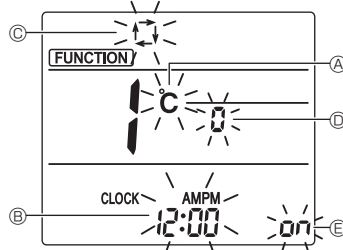

Fig. 4-11
3. Check that function No. "1" is displayed, and then press the **SET** button ③.
- The Screen display setting screen will be displayed. (Fig. 4-11)
- Press the **UP** button ④ to change the function No.
4.12.2. Changing the temperature unit (Fig. 4-11 Ⓐ)
- Press the **TEMP** button ⑤.
- Each time the **TEMP** button ⑤ is pressed, the setting switches between **°C** and **°F**.
4.12.3. Changing the time display (Fig. 4-11 Ⓑ)
- Press the **TIME** button ⑥.
- Each time the **TIME** button ⑥ is pressed, the setting switches between **12:00** and **24:00**.
4.12.4. Changing the AUTO mode (Fig. 4-11 Ⓒ)
- Press the **MODE** button ⑦.
- Each time the **MODE** button ⑦ is pressed, the setting switches between **1** and **2**.
4.12.5. Changing the pair No. (Fig. 4-11 Ⓓ)
- Press the **UP** button ④.
- Each time the **UP** button ④ is pressed, the pair No. 0-3 changes.
4.12.6. Changing the backlight setting (Fig. 4-11 Ⓔ)
- Press the **ON/OFF** button ⑧.
- Each time the **ON/OFF** button ⑧ is pressed, the setting switches between **ON** and **OFF**.